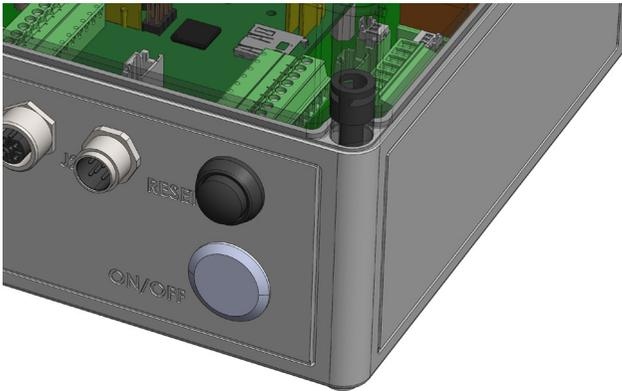

Figure 17. Power up the BIB
3. In order to make changes to battery node ID it is necessary to set the user level to 'Expert User' or 'Integrator' (Figure 17 and 18).